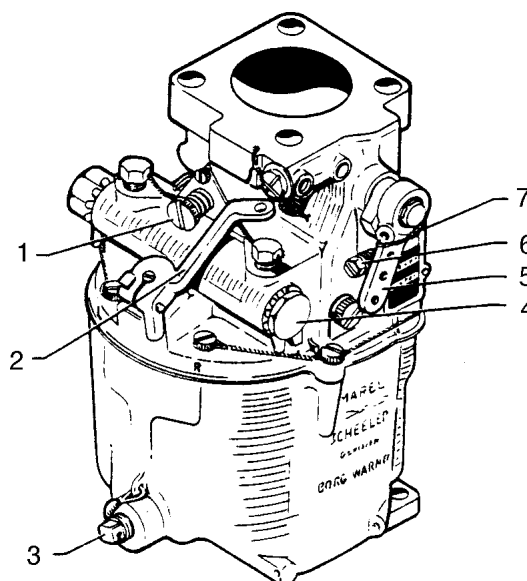

Figure 8-6. Carburetor
- d. Clean the fuel inlet screen, (Refer to Figure 8-6.)
8-17. ADJUSTMENT OF IDLE MIXTURE. (Refer to Figure 8-6.)